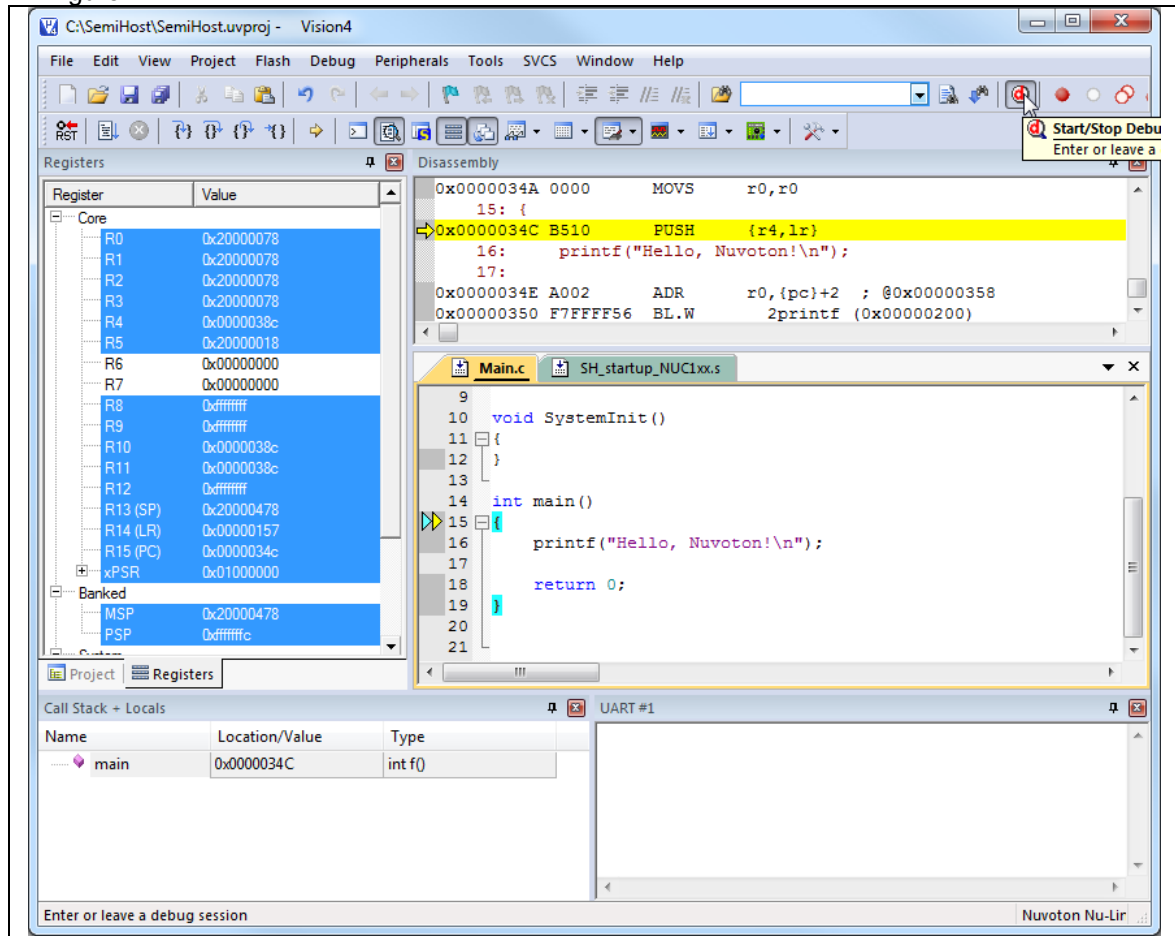

Figure 4-14 Debug Window
- Start to debug by selecting “**Start/Stop Debug session**”. When the hardware is properly configured, and the program successfully downloaded, the debugger window should look like Figure 4-14.